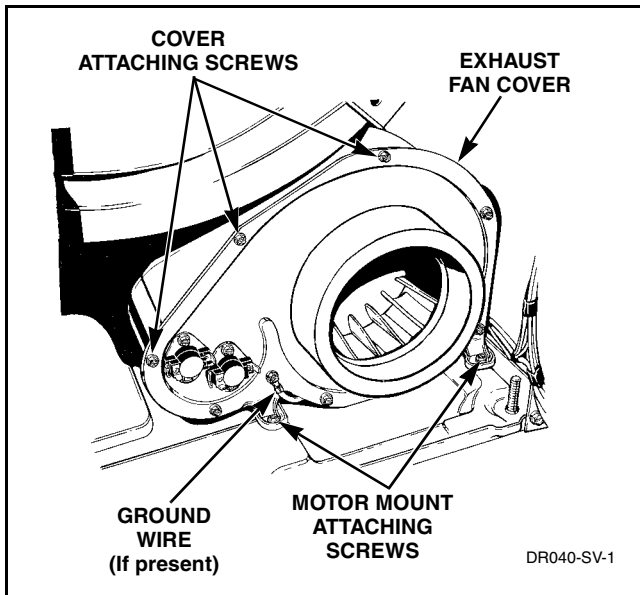
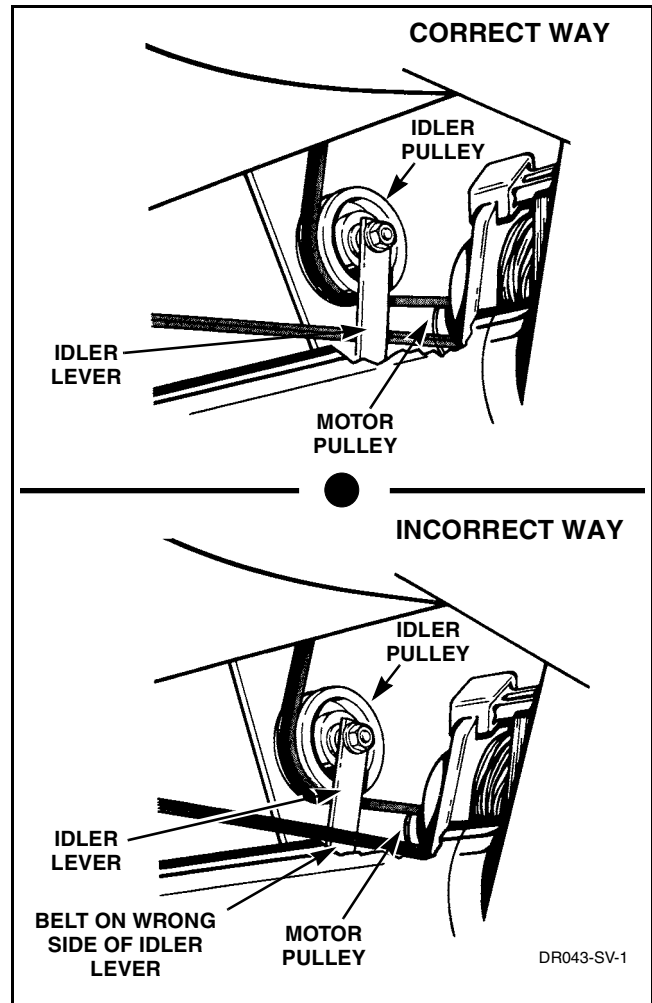

Figure 27
Figure 28
- Disconnect wires from thermostats. Refer to *Figure 27*.
- Remove cylinder belt from idler and motor pulleys. Refer to *Figure 28*.
- Remove two screws holding motor mounting bracket to dryer base. Refer to *Figure 27*. Then pull complete assembly out through front of dryer.
IMPORTANT: When reinstalling motor and exhaust assembly, be sure wire harness on right side is clipped to motor mounting bracket and is routed along dryer base (between motor mounting bracket and right side of cabinet). Refer to *Figure 27*. Tab on rear of motor mounting bracket must be slid into slot in dryer base. Be sure the belt has been installed on the correct side of the idler lever. Refer to *Figure 28*.
- (1) Remove screw holding ground wire (if present) to exhaust fan cover. Refer to *Figure 27*.
- (2) Remove screws holding cover to housing. Refer to *Figure 27*.
- Disengage belt from motor and idler pulleys. Refer to *Figure 28*.
- d. Disengage belt from motor and idler pulleys. Refer to *Figure 28*.